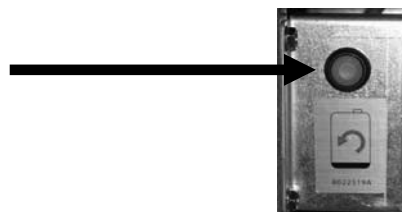

Figure 6
6. Press and hold the orange JIB reset switch **five (5) seconds** to reset the top off system. (see Figure 6).